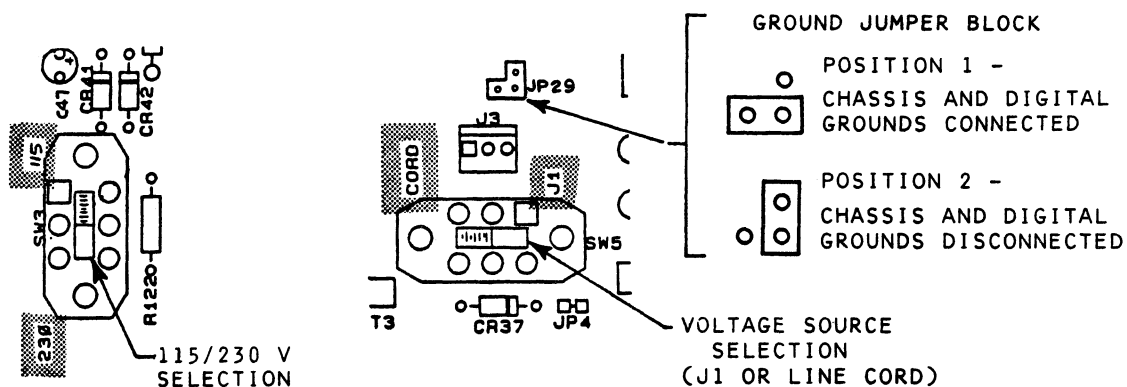

Figure 2-3. Internal Voltage and Grounding Selection
2-4.3 Power Requirements. The API operates with either 115 V ac or 230 V ac, 47 to 440 Hz power source. Power may be applied from the line cord or parallel I/O rear connector J1. Refer to table 2-1 for J1 power connections and figure 2-3 for switch selection of voltage and power source.
2-4.3.1 Internal Power Connections. All API models are factory set for 115 V ac line cord operation (line cord is supplied), but can operate using 115 V ac or 230 V ac as selected by internal switch SW3. In addition, a rear power connector which also accepts 115 V/230 V ac can be used in place of the line cord by selecting the position of internal switch SW5 (see figure 2-3). To select position of switches SW3 and SW5 proceed as follows:
- c. Locate jumper block JP29 and select desired position (refer to figure 2-3).